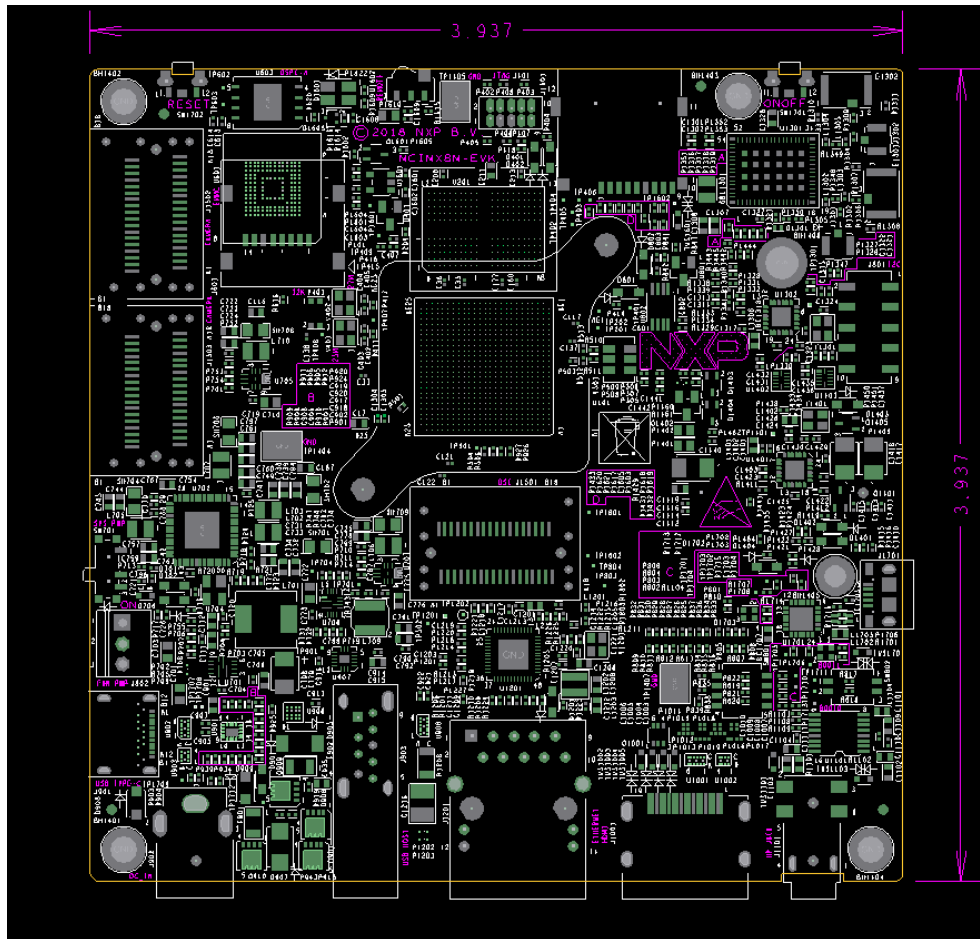

Figure 2. i.MX 8M EVK board overview
**Figure 2** shows the overview of the i.MX 8M EVK board.